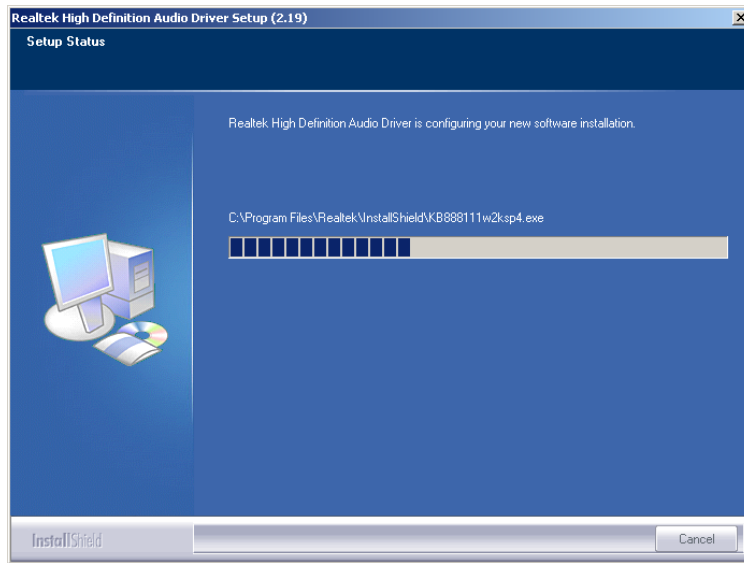

Figure 7-30: Audio Driver Software Configuration
Step 11: InstallShield starts to install the new software as shown in Figure 7-30.